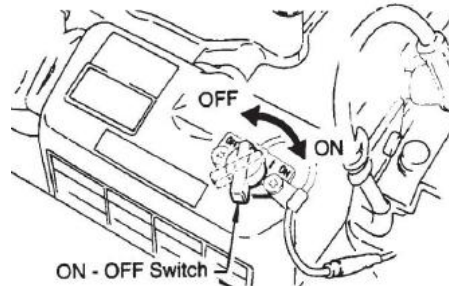
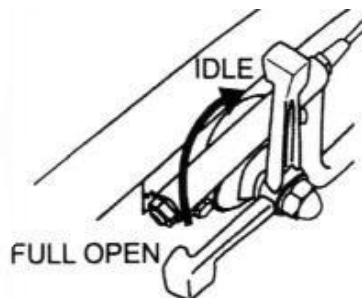

Fig 6
Fig 10
2. Set the engine ON/OFF switch (Fig 6) to the **ON** position (start).
1. Move throttle lever quickly from the FULL OPEN to IDLE position (Fig 10) and run the engine for three minutes at low speed. After the engine cools, turn the engine start/stop switch to the "STOP" position (Figure 6) until engine comes to a complete stop.